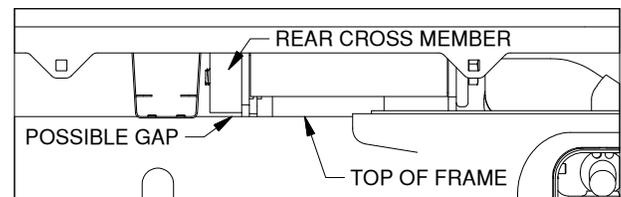
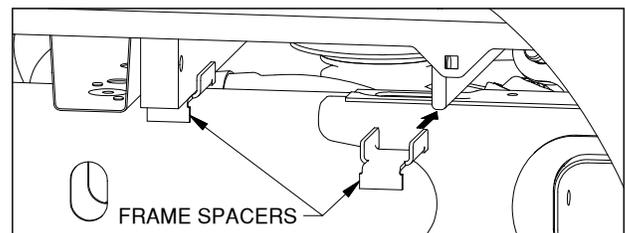

Figure B7: View looking into passenger side wheel well.
Figure B8: View looking into passenger side wheel well.
5. **Install frame spacers (if needed).** With the center section tightly pulled up against the bed of the truck with the lifting device, check for any gaps larger than 1/16" between the top of the frame and the bottom of the cross members, see Figure B7. If a gap is present, place a frame spacer under each end of the cross members, as shown in Figure B8. If a lifting device was not used, look for a gap between the bottom of the bed and the top of the center section. If no gaps are found, you may discard the frame spacers and proceed with the installation without them.